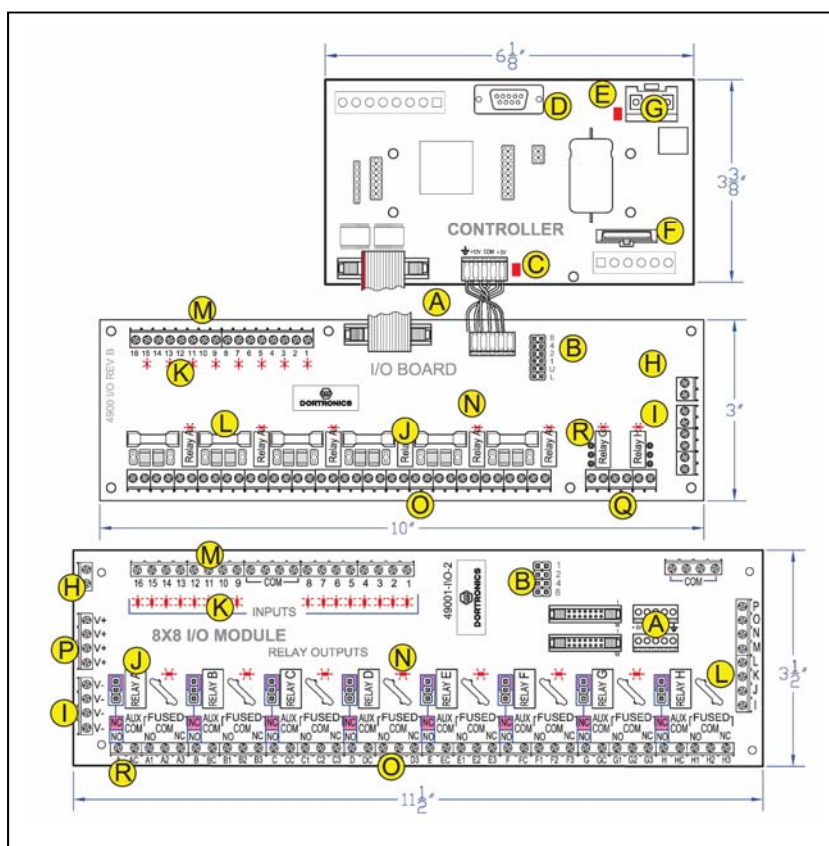

FIG. 1
The 4900 series PLC interlock controller is a cost effective method for operating door interlock and mantrap systems of up to 120 doors. The basic system consists of a controller and one or more I/O (Input Output) modules. The I-O Modules are available as an 8X8 or a 16X8X8 configuration depending on the number of inputs and outputs required. Outputs are a combination of DPDT and SPDT relays. The 16X8X8 controller includes 8 open collector powered auxiliary outputs able to drive low voltage loads directly, up to 40 mA per channel. The 4900 controller is pre-programmed for many applications and ships from stock. It can be programmed at the factory for custom application requiring timed sequences (such as airlock, wash down etc.) or Interlocks involving multiple rooms and up to 100 doors. Figure 1 below shows both types of I-O module.
The 8X8 I/O module (see Figure 1) has 8 input channels and 8 outputs comprised of 6 DPDT relay contact sets (one of each is fused) and 2 dry contact SPDT relays.
Mag locks and strikes are connected to the designated relay contacts by labeled screw terminals. Relay outputs are selectable for dry or wet contacts. Power for maglocks, strikes and indicators may be external or sourced from the I-O Module using a wet contact jumper for relays A - F. Relays G and H are dry contact only. See Figure 1 (I). Jumpers connect relay common to supply positive (+). When relays are operated with wet contacts shorting the output to ground **will blow the fuse and may damage the I-O board!**
The PLC status is continually monitored by a watchdog function. The watchdog LED (see Fig 1) blinks rapidly (at a rate of 3 times per second) to indicate that a program is loaded and is being executed correctly. If the watchdog indicator is not blinking, verify that there is 12 or 24 VDC at the correct power terminals. If power is present and the watchdog indicator is not blinking, or blinking slowly, contact Dortronics for technical assistance.